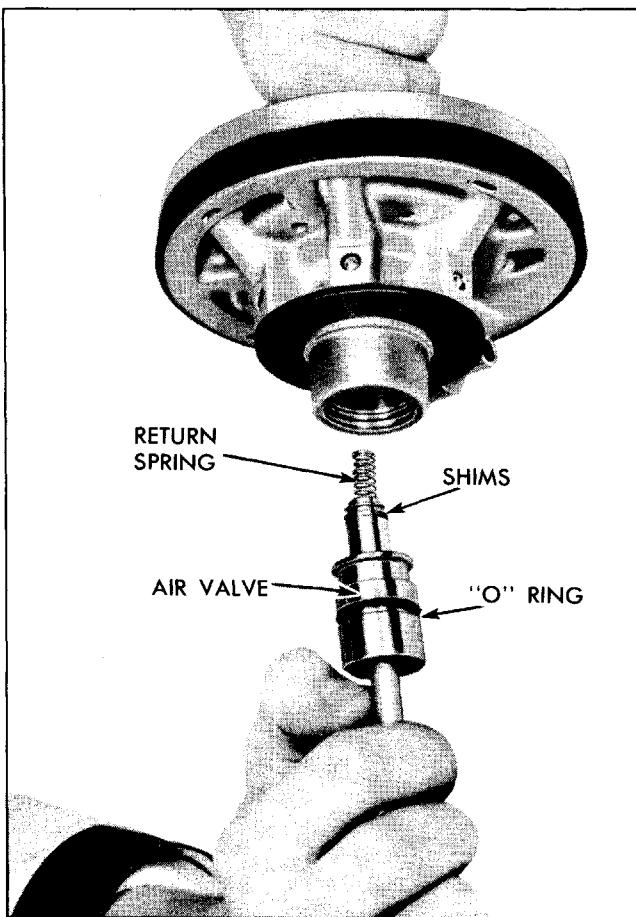

Fig. 5-53 Removing or Replacing Air Valve Assembly
3. Carefully pull out air valve and push rod while holding piston in vertical position. Valve spring and shims will come out with the air valve (Fig. 5-53). CAUTION: Lift out spring and make note of number of shims which fit over valve shank and rest on valve shoulder.
4. Remove "O" ring from air valve (Fig. 5-53).